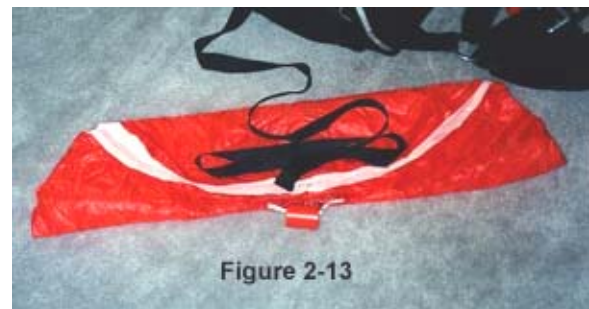

Figure 2-13
**Step 18** Fold back and "S" fold the bridle as shown in *Figure 2-13*.